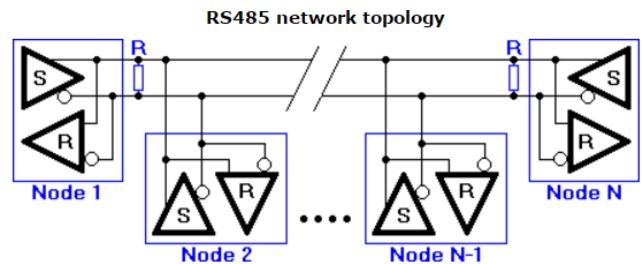

Figure 1: RS485 Half-Duplex
*Figure 1* shows a half-duplex topology where all the transmitter outputs are normally in high impedance state and all receivers are actively listening. Let's assume Node 1 is the master and by definition Modbus/RTU can only have one master. In order to issue a command, Node 1 asserts the transmitter output, sends the command, and after finishing the command immediately sets the output to high impedance again. The addressed receiver now asserts the output of its transmitter and sends an appropriate response.